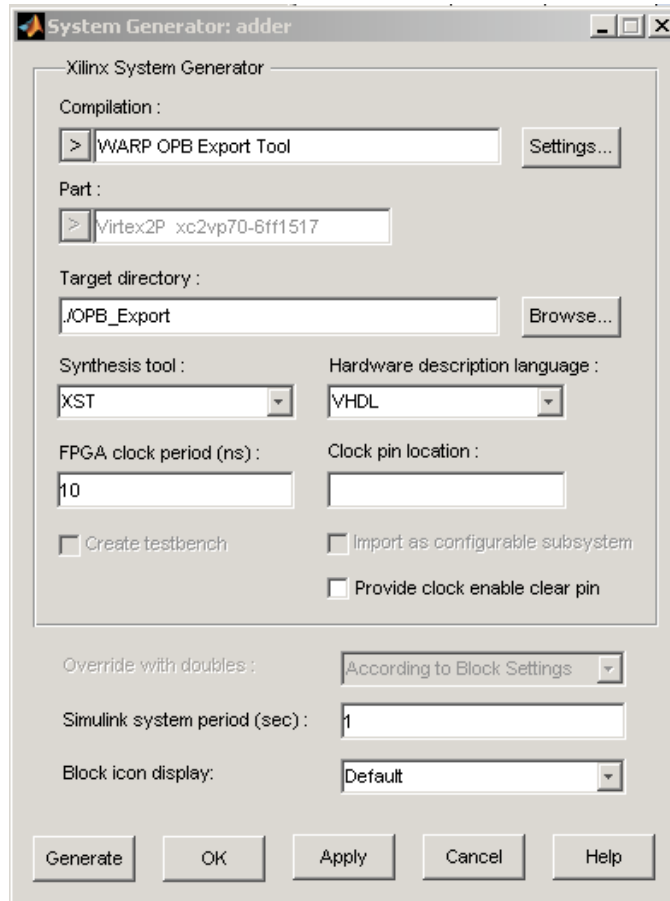

Figure 1: System Generator parameters for OPB core generation
11. Double click on the System Generator icon within the model. Verify that the System Generator parameters match those in Figure 1.